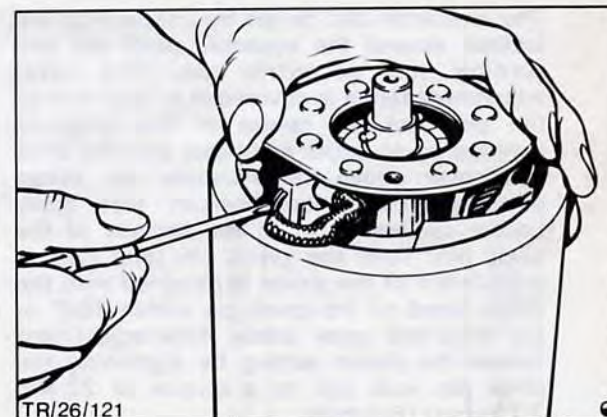

Fig. 77. Pushing brushes through holders
23. Bring brush holder assembly near the yoke and fit the two insulated field coil brushes. Fit rubber seal on commutator end cover. Push the brushes through their holders against commutator face, Fig. 77, the brush springs will slip into position behind brushes. Ensure that springs are correctly aligned, and that all brush leads are suitably positioned to allow end cover to be fitted. Align the cross peg on the armature with end cover brake slots and fit end cover onto yoke taking care to line up dowel pin. Fit through bolts after the brush plate to end cover bolts are fitted.